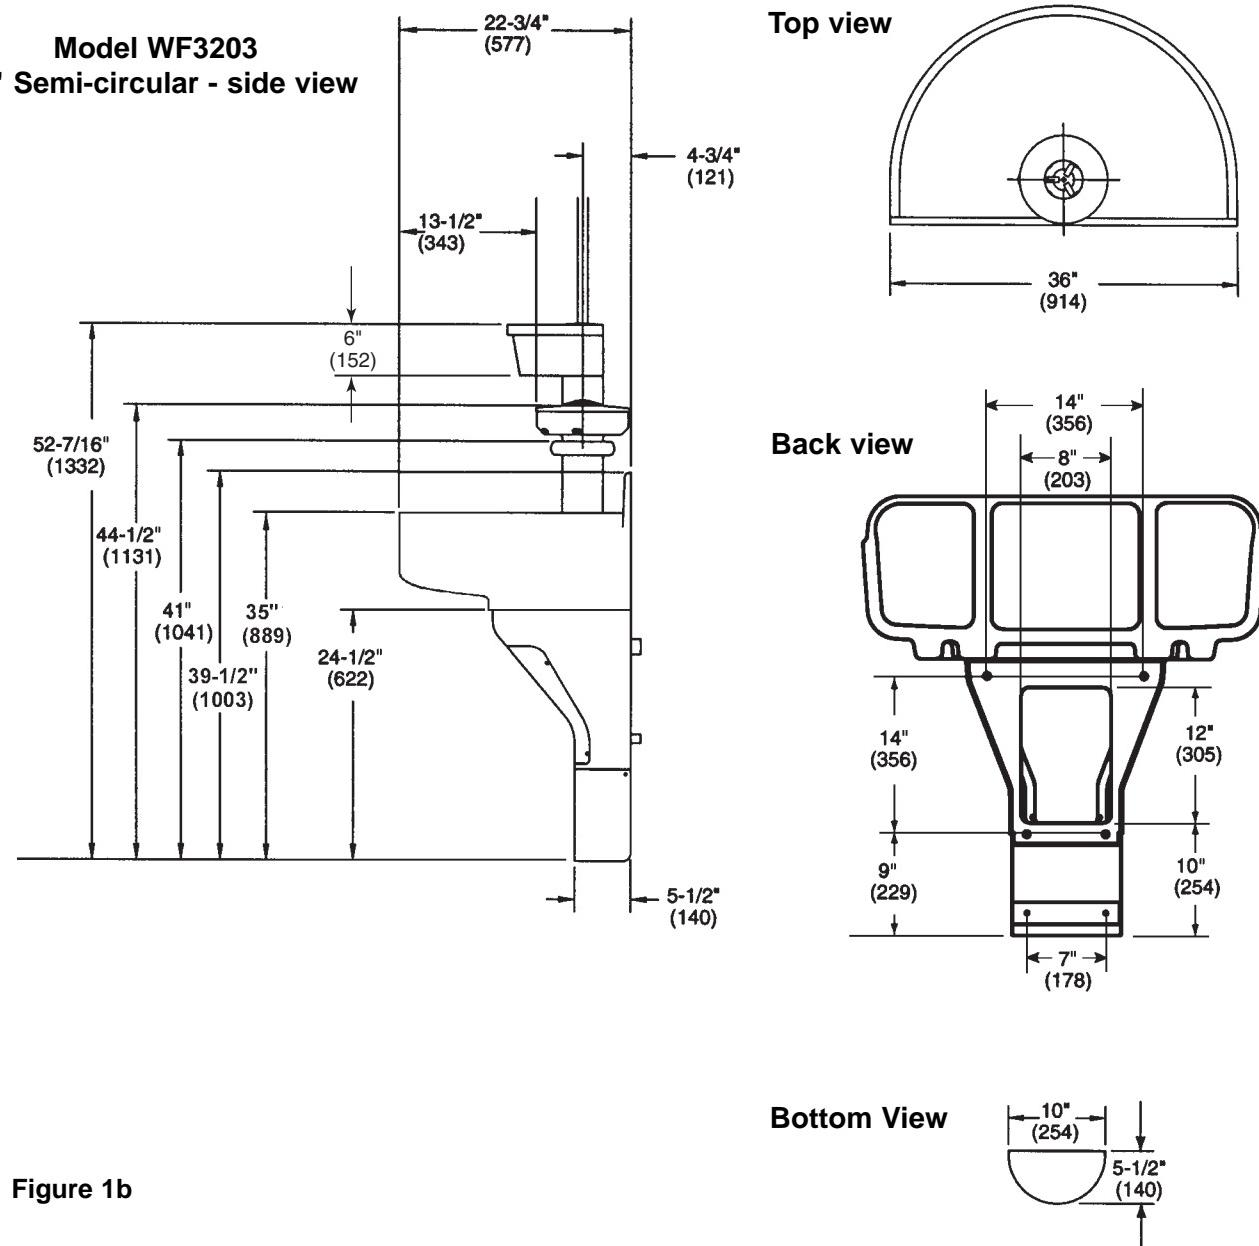

Figure 1b
2. Position the pedestal at the desired location and mark the position of the (4) pedestal wall mounting locations.
3. Secure the pedestal to the wall with suitable fasteners, 1/2" anchors and 1/2" bolts (supplied by installer) (see Figure 1b for wall mounting locations).